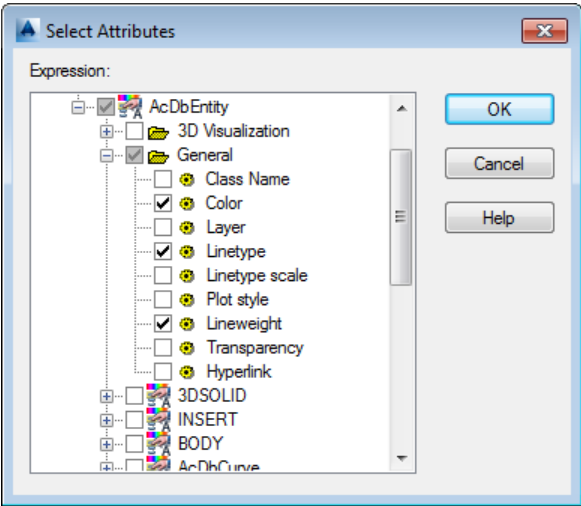

Figure 2-38 The Select Attributes dialog box showing various options selected
12. Choose the **Select Attributes** button in the **Export** dialog box; the **Select Attributes** dialog box is displayed. Expand the node **Object Properties > AcDbEntity > General**. Select the check box corresponding to the **Color**, **Linetype**, and **Lineweight** options, refer to Figure 2-38.